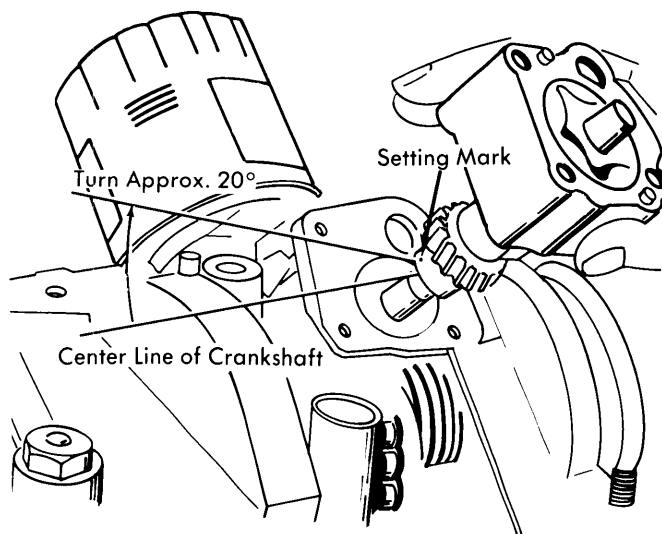

Fig. 9 Installing Oil Pump
2) Install driven rotor so that alignment mark aligns with mark on the drive rotor. Engage drive gear with pinion gear or crankshaft so alignment mark is turned rearward and is away from crankshaft by approximately 20° in clockwise rotation (See Fig. 9).